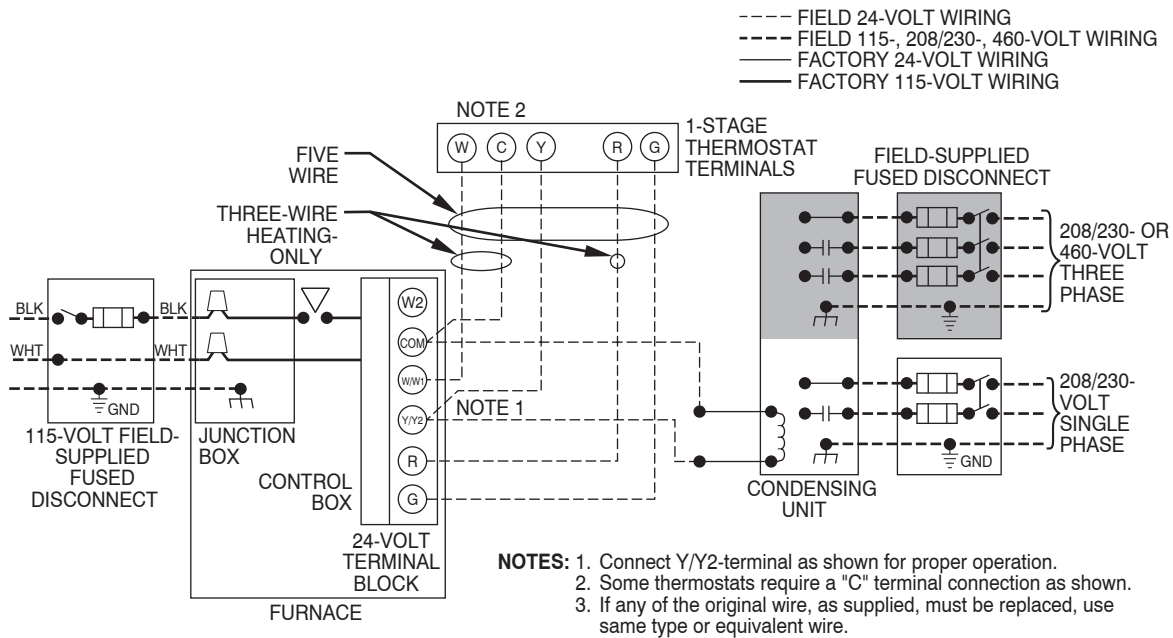

Fig. 25 - Field Wiring Diagram
See Fig. 25 for field wiring diagram showing typical field 115-v wiring. Check all factory and field electrical connections for tightness.
5. Connect line voltage leads as shown in Fig. 25.
Make field 24-v connections at the 24-v terminal strip. (See Fig. 25 - 34.) Connect terminal Y/Y2 as shown in Fig. 27-34 for proper cooling operation. Use only AWG No. 18, color-coded, copper thermostat wire.